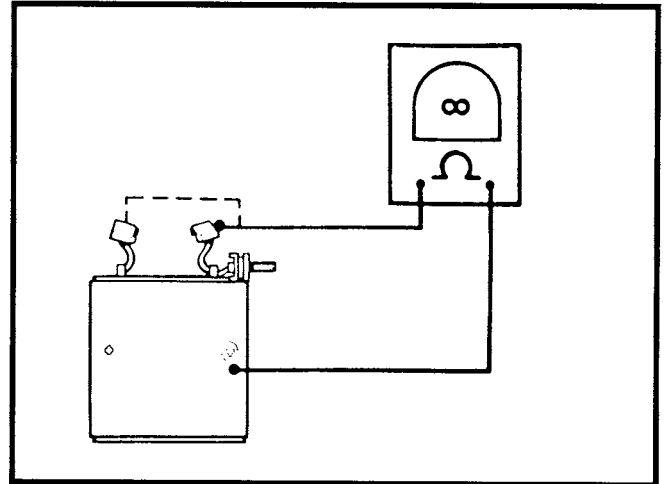

Figure 78. Grounded Field Test
13. See Figure 78. Check for GROUND^{ED} FIELD WINDING with an ohmmeter or continuity tester. Touch one probe to the frame, and the other probe to each of the brushes attached to the field winding. There should be no continuity (infinite ohms). If there is any continuity at either brush, the field winding(s) are grounded and the field frame should be replaced.